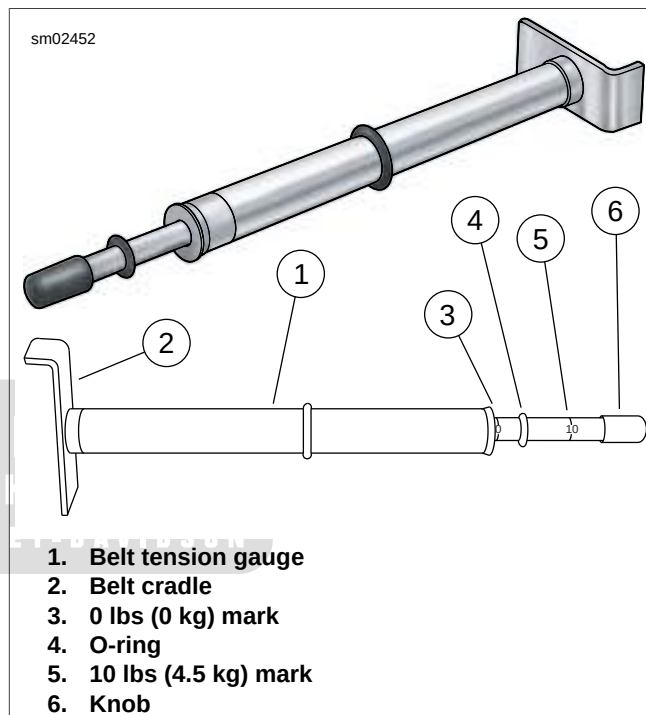

Figure 1-25. Belt Tension Gauge (Part No. HD-35381-B)
- See Figure 1-25. Obtain H-D BELT TENSION GAUGE (Part No. HD-35381-B).